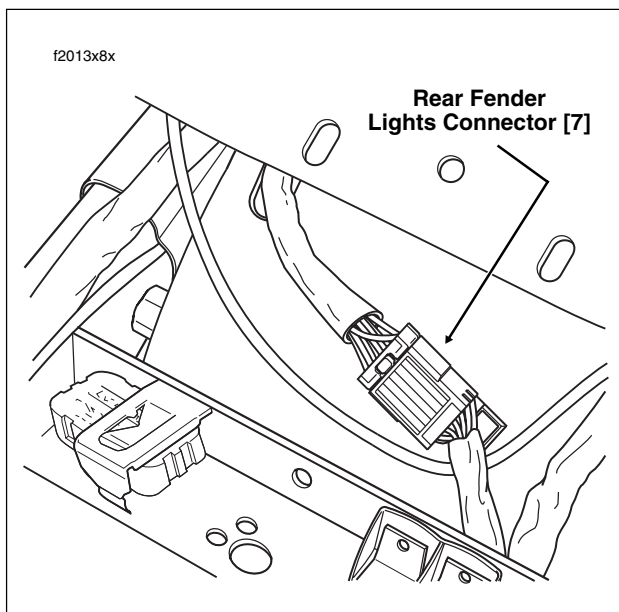

Figure 2-179. Rear Fender (Top View)
4. Disconnect the rear fender lights connector anchored at the front of the rear fender. Depress the button on the socket terminal side and pull apart the pin and socket halves. Release anchor from fender hole. See Figure 2-179.
10. Mate pin and socket halves of rear fender lights connector and snap anchor in rear fender hole. See Figure 2-179.